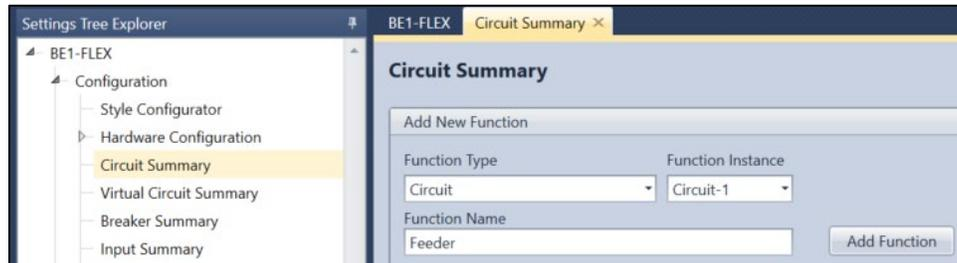

Figure 2-9. Circuit Summary Screen
- Step 6: In the Settings Explorer, click the “>” next to BE1-FLEX. This expands the sub menus in the tree. Now select Circuit Summary. Edit Function Name to “Feeder” and select Add Function. See Figure 2-9.